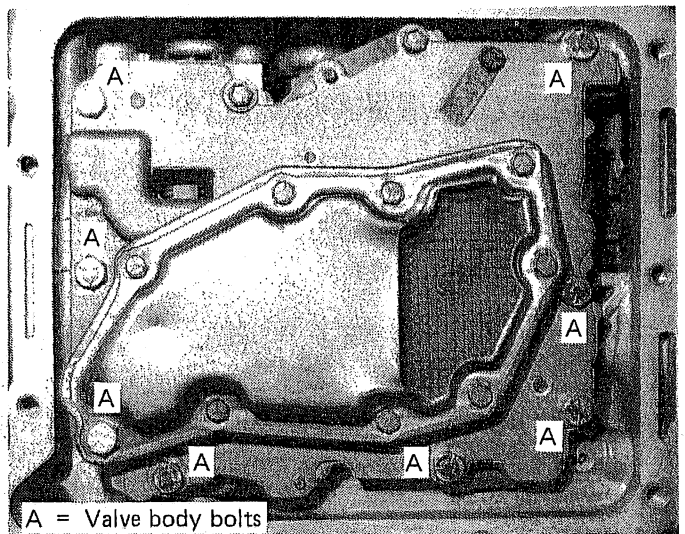

FIGURE 2
STEP 3. Remove the eight valve body attaching bolts (See Fig. 2) and remove the valve body by pulling straight down. Put the valve body in the oil pan.